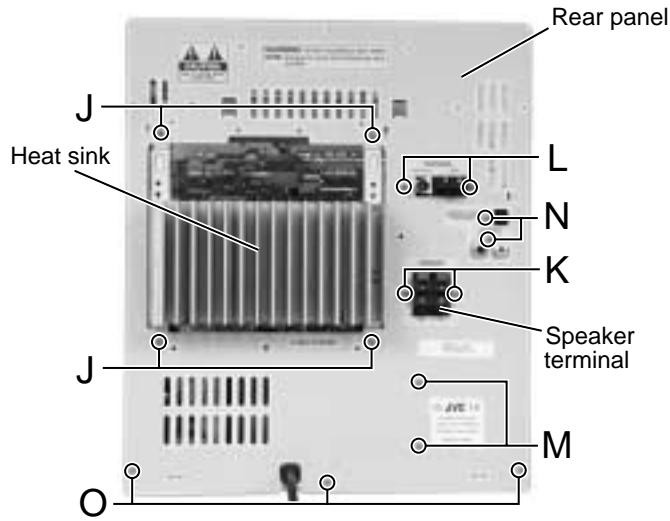

Fig.12
■ Removing the tuner board (See Fig.12 and 13)
■ Removing the EOC board (See Fig.12 and 13)
■ Removing the rear panel (See Fig.12)